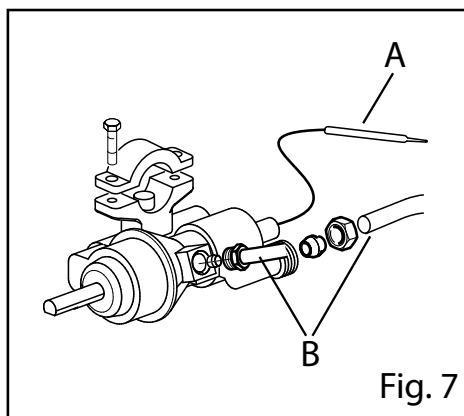

Fig. 7
- Remove the bulb from the support (e.g. Fig. 7/A)
- Unscrew the gas inlet and outlet connections (e.g. Fig. 7/B)